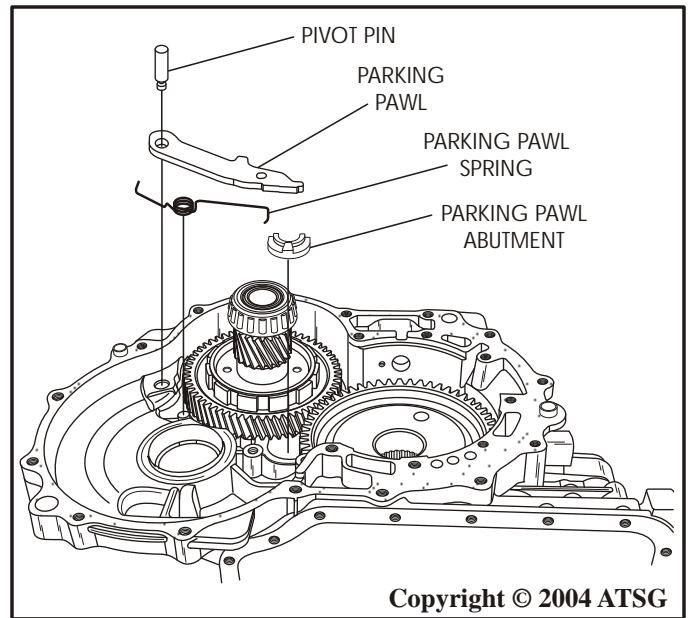

Figure 51
52. Remove the parking pawl pivot pin using a pencil magnet (See Figure 51).
53. Remove the parking pawl from case, as shown in Figure 51.
54. Remove parking pawl spring and abutment, as shown in Figure 51.